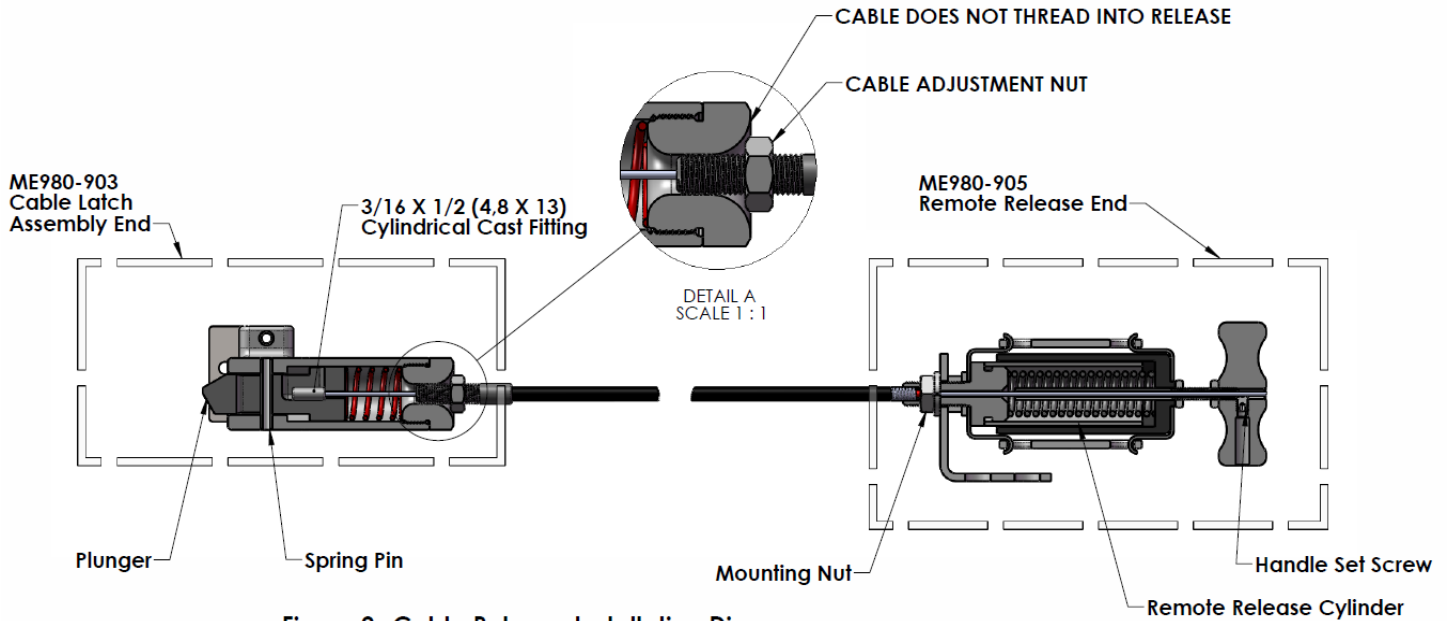

Figure 2: Cable Release Installation Diagram
2. If it is necessary to cut the cable to a shorter length, pull about one foot of inner cable from the ME980 latch cable end (end with the 3/16 by 1/2" long cylindrical cast fitting – see Figure 2) from the housing. At the remote release end (other end of inner cable housing assembly), cut the cable jacket and inner cable at desired length. Push the excess inner cable back through the housing so that the bare cable extends from the remote release end.